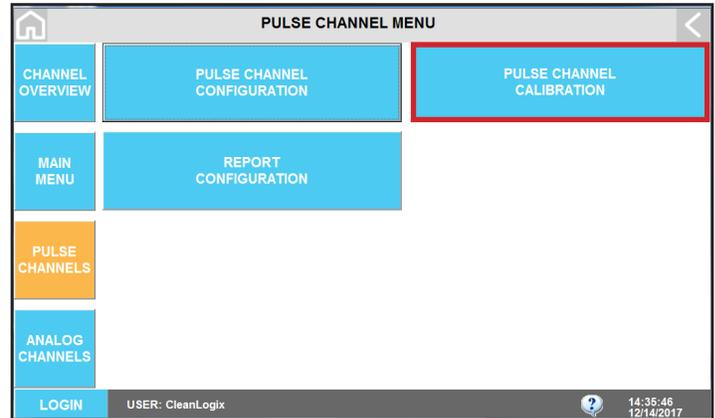

Figure 9.1: Pulse Meter Menu
1. Navigate to the **PULSE CHANNELS** screen and select **PULSE CHANNEL CALIBRATION** [Figure 9.1]